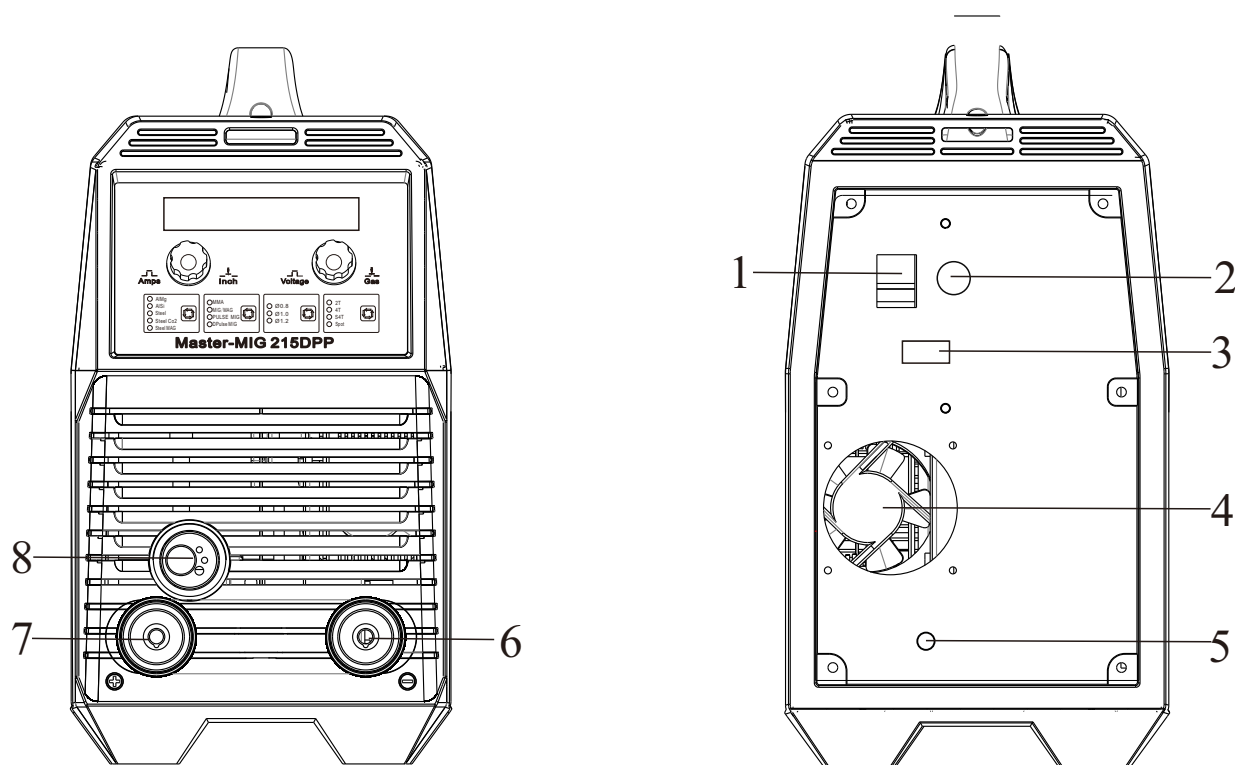

Fig. 1
■ The controls and interfaces on front and rear panels of welding machine are shown in Fig. 1.